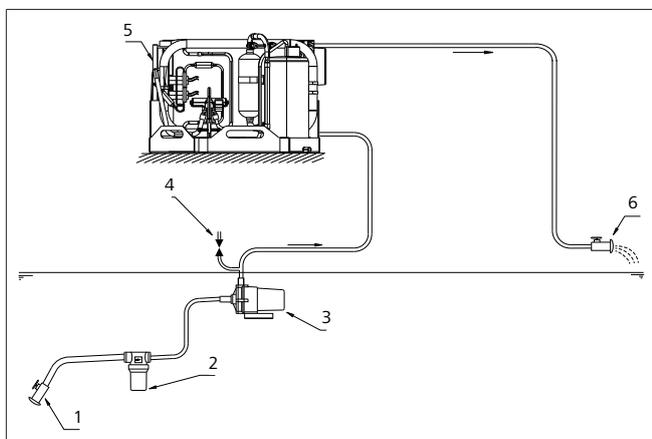

Fig. 8 Installation example
1. Install the sea water pump (see Fig. 8).